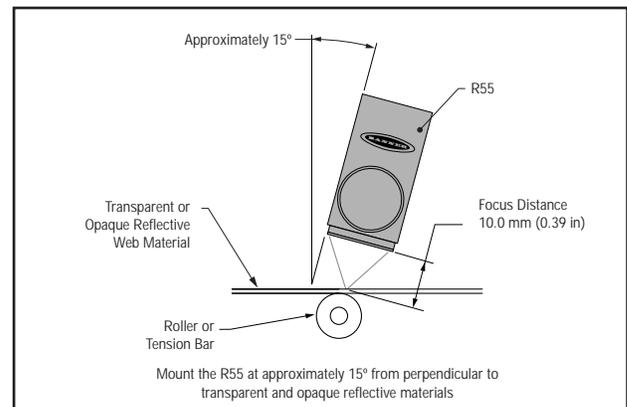

Figure 4b. Mounting for sensing opaque reflective and transparent materials
- 1) When sensing a color mark on a reflective (shiny) material, mount the R55 at an angle which places the lens centerline at approximately 15° off perpendicular to the material's surface (see Figure 4b). This "skew angle" will minimize strong direct reflections (which tend to overwhelm the sensor), and allow the sensor to discern the relatively small optical contrast offered by difference in colors.
- 2) Clear materials are poor reflectors of light. When sensing a mark printed on a clear material (e.g., a clear poly web), position a reflective surface directly behind the clear material which will return light to the R55. The printed mark, regardless of its color, then becomes the dark condition, as it blocks the light from reaching the reflective surface. Most clear materials are also shiny; it is important also to include a 15° skew angle when sensing clear materials (Figure 4b).